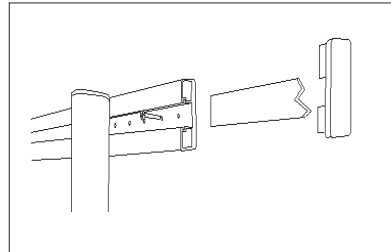

Figure 6a
1. **Figure 6a:** Remove one end cap from each horizontal crosspiece of the frame with a flat-head screwdriver. Slide out the cover strips to access the bolt holes. Fasteners are not included. Use fasteners to suit the wall construction. Installation must be adequate to support a 250 lb.(113 kg) user.